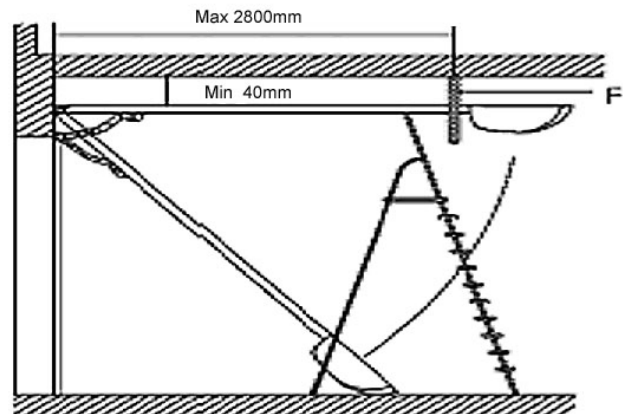

Fig. 7
- 1.5) Fix the opener to the ceiling with appropriate fasteners (Fig.7). Cut off any fixing strap excess.